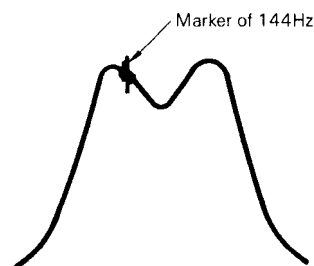

FIG. 13 WAVEFORM AT HELICAL SECTION
- (2) Turn the power switch to ON (power voltage: 13.8V).
- (3) Produce 144MHz marker signal (Fig. 13) and adjust TC2 and TC1 for maximum gain.
- (4) After the maximum gain is obtained, turn TC3 just about 1 rotation so that the gain is decreased.